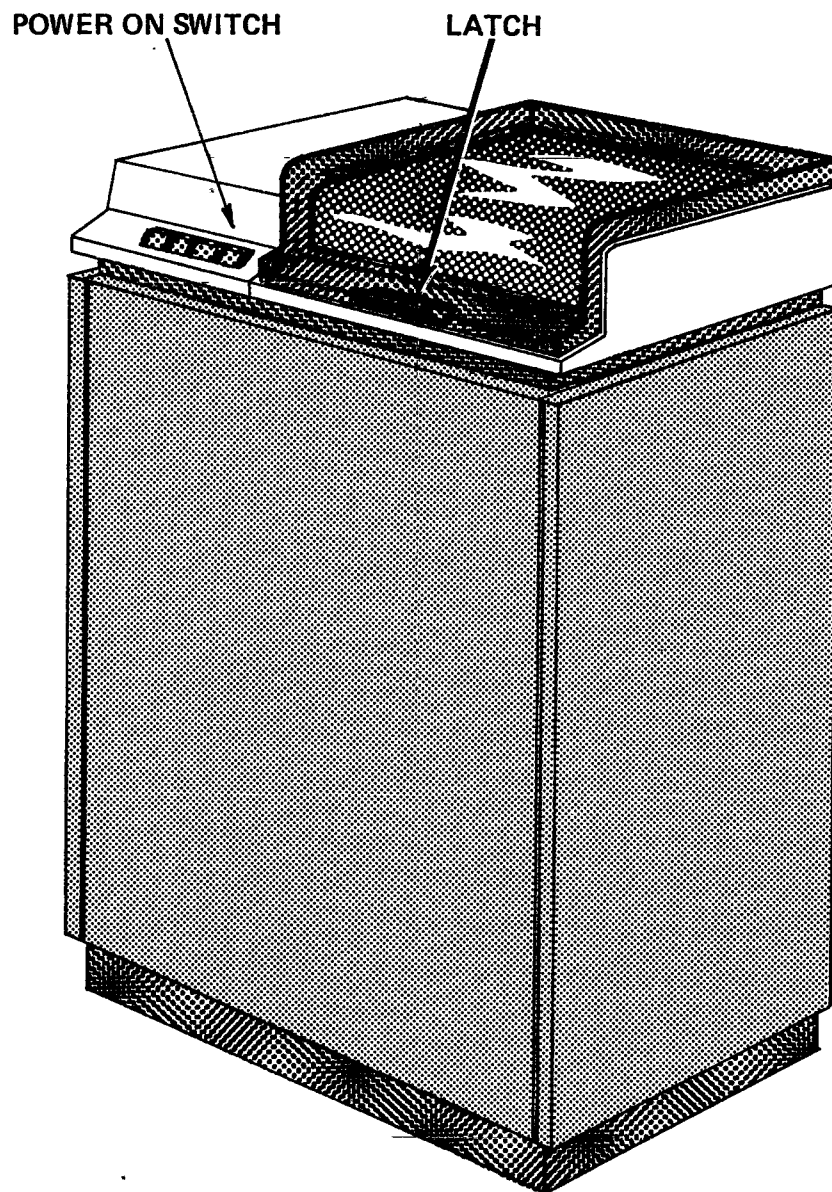

Figure B-1: CALCOMP Model 114D Disk Drive
2. When the disk pack has stopped, press the cover latch (figure B-1) and lift the cover.